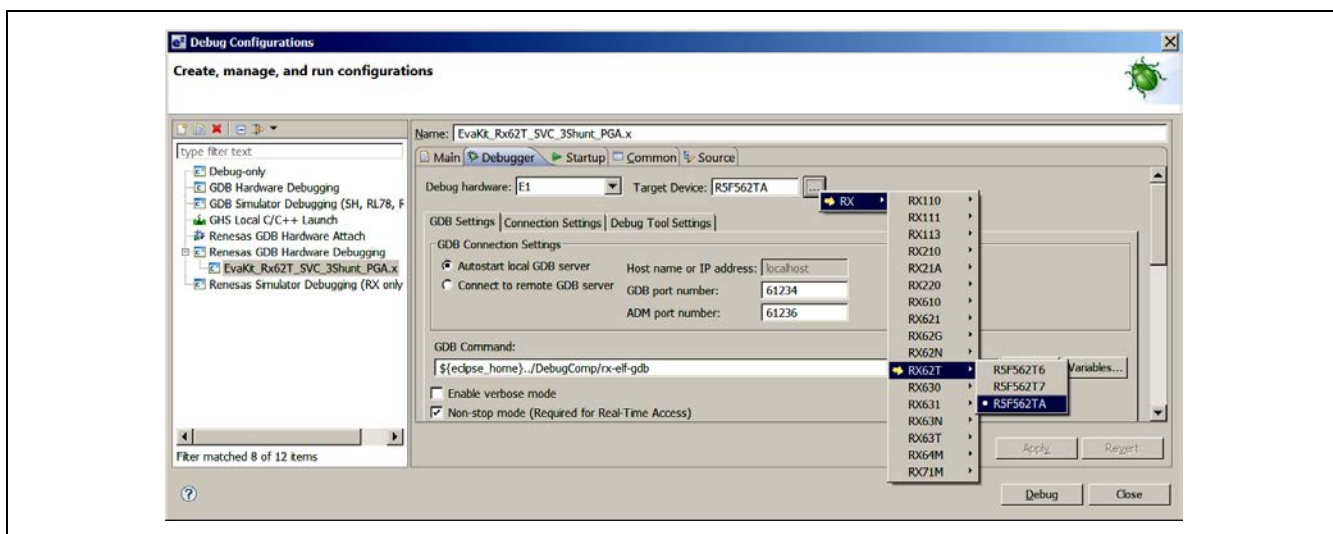

Figure 21 Debug Configuration Debugger Dialog Box
- Step 4. Select the “Debugger” tab as shown in Figure 21.